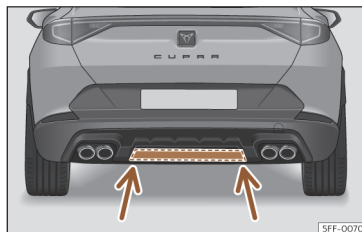

Fig. 79 Lower sensor detection area.
- If the rear lid fails to open, repeat the procedure after a few seconds. The detection zone of the lower sensor may not have been reached >>> **Fig. 79**.